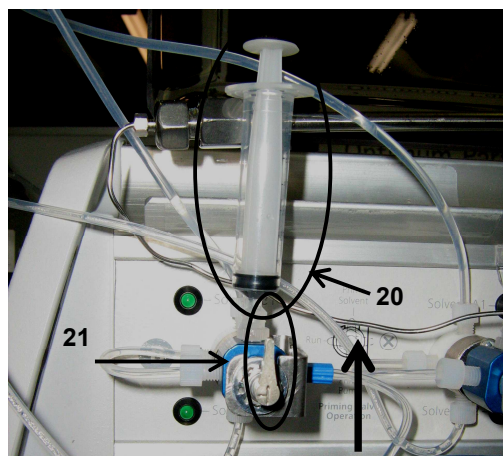

Figure 18: Purging the B valve
1. Attach a syringe (20) to the top of the SUM selection valve B *Figure 18*
2. Turn the valve selection switch until it points straight up (21) *Figure 18*, and pull back the plunger in the syringe to fill it with mobile phase.